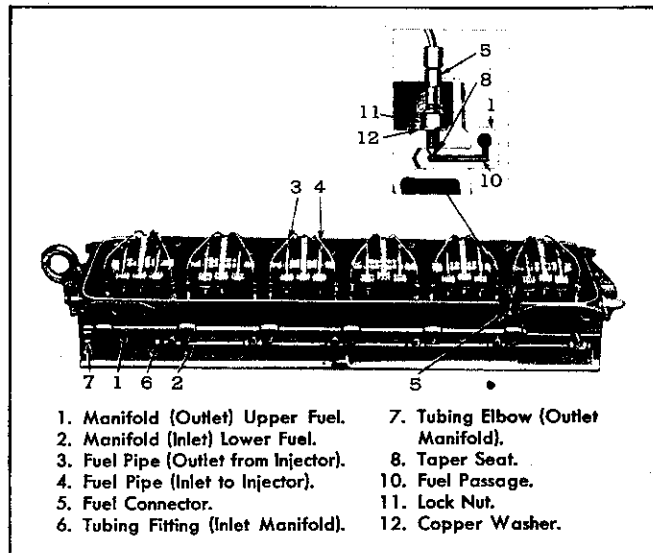

Fig. 49—Fuel Oil Manifold Assembly
**Description**—Fuel injectors are supplied with fuel oil by the pump through the lower of two fuel manifolds located on the side of the cylinder head and connected to the injectors by short steel lines, as shown in Fig. 49. The upper manifold returns the excess fuel from the injectors through tubing to the fuel tank. Both manifolds are locked in position at the side of the cylinder head by fuel connectors which set into tapered seats in the manifold fittings.
**Remove Fuel Oil Manifold**—When occasion requires, either fuel oil manifold may be removed. However, before removing, one should refer to Figs. 49 and 50 for assembly and relative location of parts; then proceed as follows:
2. Disconnect fuel oil pipes (3) and (4) from injectors to fuel connectors (5).
3. Disconnect fuel lines from manifolds at (6) and (7).
4. Unscrew lock nuts (11) on connectors, a few turns.
5. Remove connectors from head and discard copper washer (12).